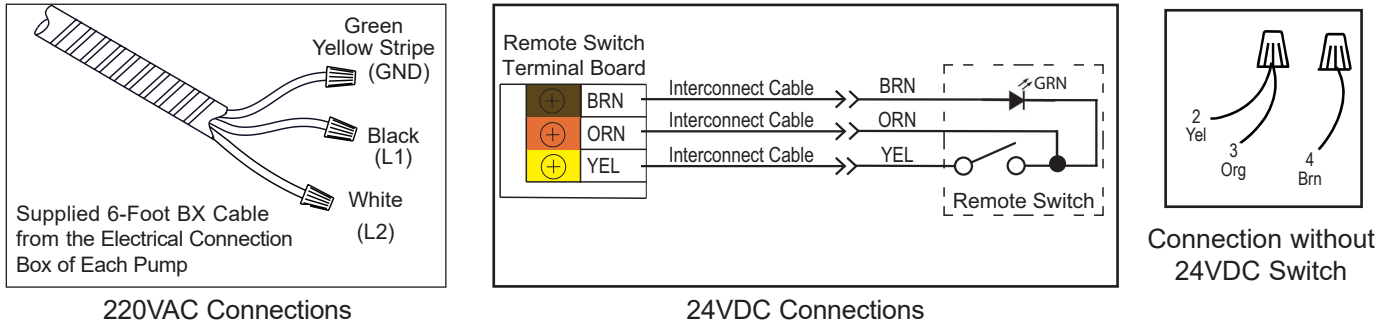

Figure 9 VacStar NEO Electrical Connections
- Figure 9, 220 VAC Connections, shows the wiring from the supplied flexible metal conduit from each pump that is to be connected to the branch supply circuit.
- Make the 24VDC connections shown by Figure 9 for the remote switch. When not using the remote switch, insulate the BRN wire and tie the ORG and YEL wires together.